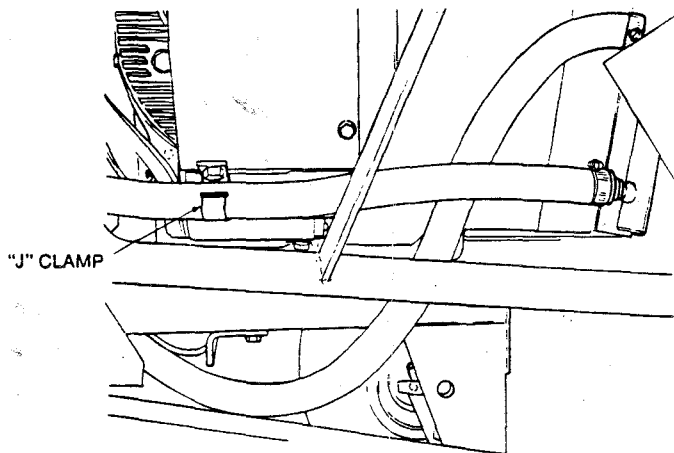

FIGURE 4. HYDRAULIC OIL LINE ROUTING AND J CLAMP
4. Route and secure oil lines. Use the "J" clamp provided on the engine to hold the lower hose toward the cylinder air housing. (Figure 4)